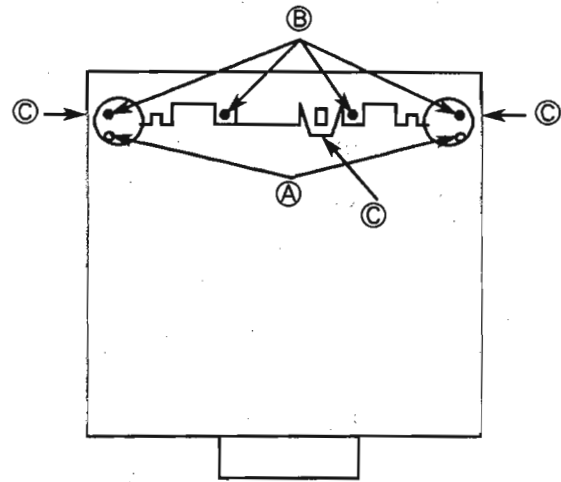

Figure1 Bottom view
3. Remove the 4 screws ④ fixing the holder bracket to remove the bracket (Figure 1).